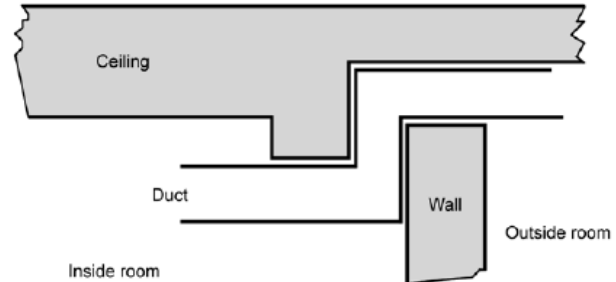

Fig. 4.5. Concrete baffle used to accommodate duct.
- (3) use the concrete shielding as a baffle, as shown in Figure 4.5. Here two parallel, overlapping sections of concrete provide a vertical “mini-maze.” For this arrangement to be successful, the degree of overlap *should* be as large as possible.